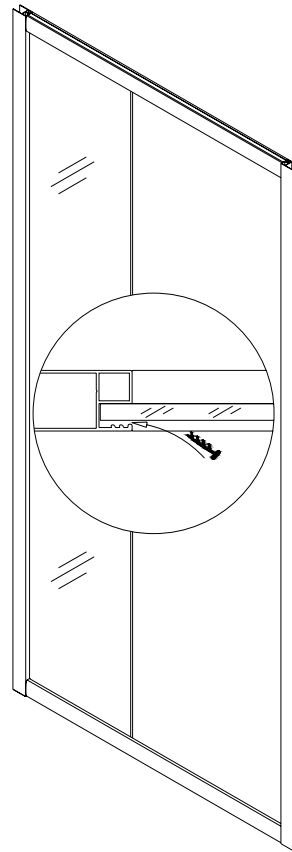

Fig 7
6. Push **Single side plastic strip (8)** between glass and side wall of the profile using wooden shims or other piece of wood. **Do not use the screwdriver or other metal objects; you can scratch or damage the glass and aluminum.** See Fig 7 for details.